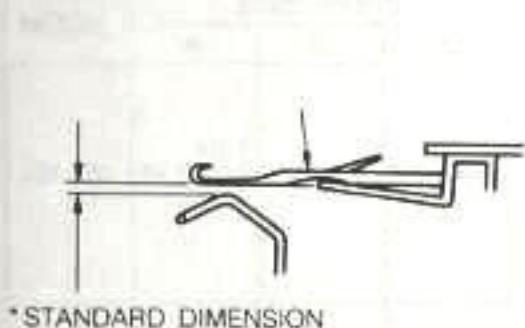

Fig.16
Please check the clearance between KR-gate pegs and the back of the needles of Knitter. (See Fig.16) If the dimension is wrong, adjust by the function of slide plate assembly. (Height adjuster plate.) See Page 1 for your reference. (From (1) to (3) of 1.2)